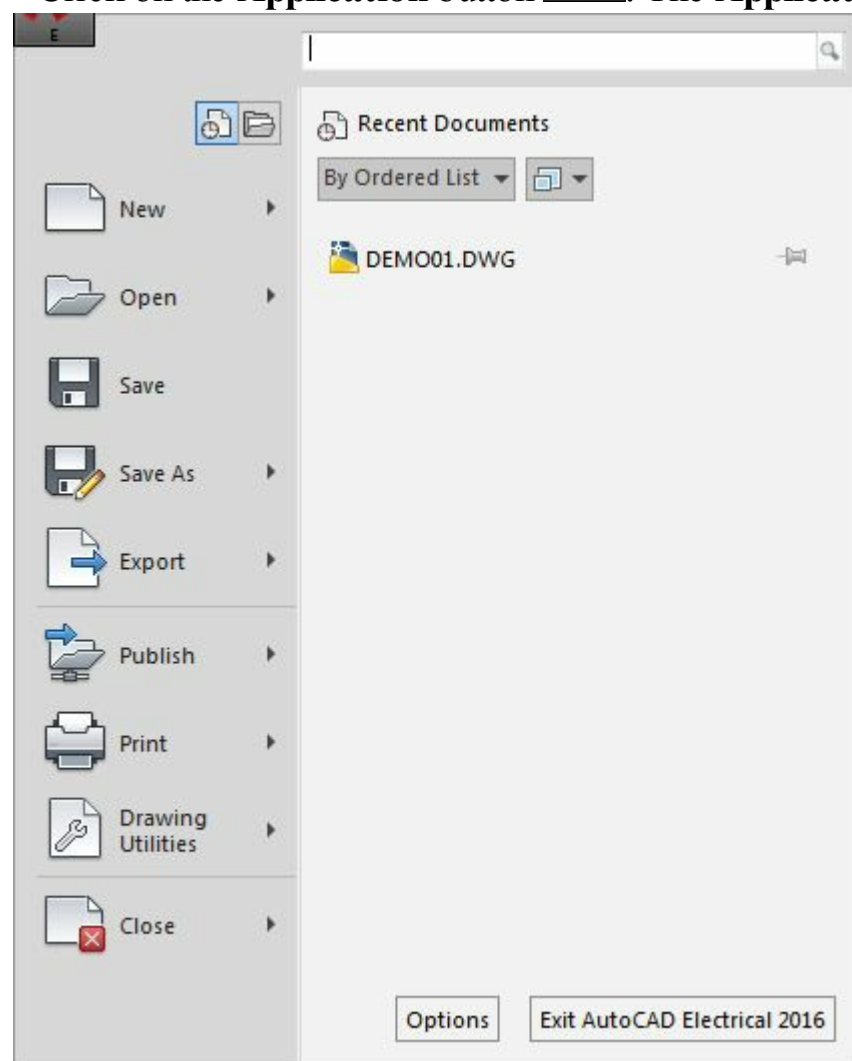

Figure-10. Application menu
- Click on the **Application** button . The **Application Menu** will be displayed; refer to Figure-10.